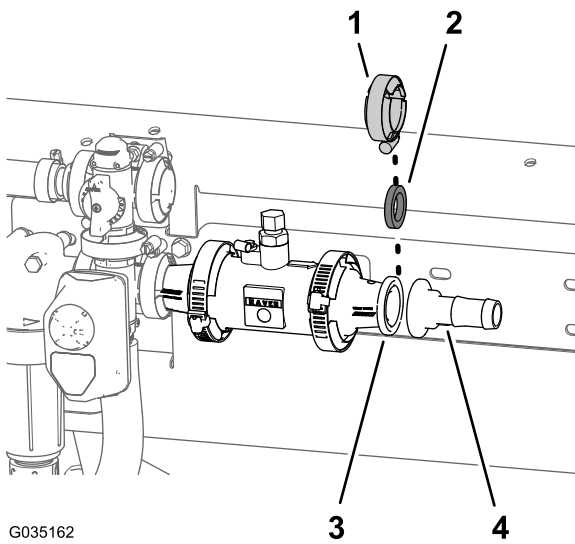

**Figure 55**
- A. Align the gasket (2-1/4 inches) that you removed in step 2 B of Removing the Coupling Tube and Reducer Adapter \(page 19\) between the flow meter and the reducer adapter that is installed at the right side of the master-control valve (Figure 55).
- B. Loosely assemble the gasket, flow meter, and reducer adapter (Figure 55) with a flange clamp 76 mm (3 inches) that you removed in step 2A of Removing the Coupling Tube and Reducer Adapter \(page 19\).
- C. Align the gasket (2-1/4 inches) and reducer adapter that you removed in step 2C of Removing the Coupling Tube and Reducer Adapter \(page 19\) to the end of the flow meter to which the directional arrow points (Figure 55).
- D. Assemble the gasket, flow meter, and reducer adapter (Figure 55) with a flange clamp 76 mm (3 inches) that you removed in step 2A of Removing the Coupling Tube and Reducer Adapter \(page 19\).